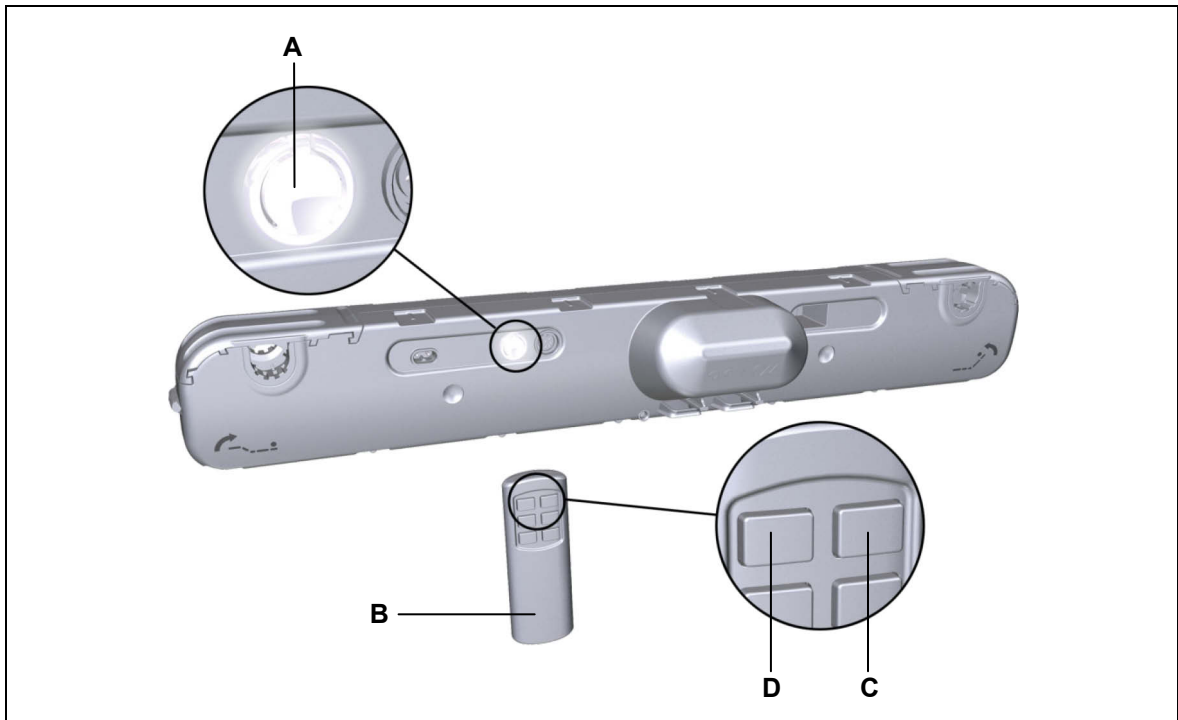

Figure 18 Programming the RF Eco hand-held remote
- 1 Press the function key on the drive (**A** in Figure 18) twice (a quick double click). The drive will now be in the teach-in (programming) mode for approximately 10 seconds. The LED on the function key lights up.
- 1 Press the function key on the drive (**A** in Figure 18) four times quickly.